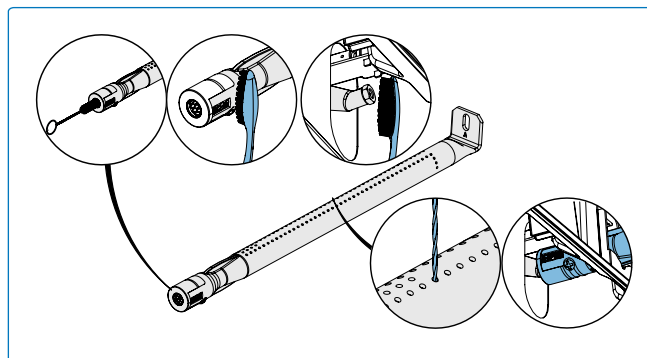

Fig. 29
- Clean the inside of the burner using a flexible venturi tube brush or, for delicate areas, a soft bristled brush to gently remove debris (**Fig. 29**).